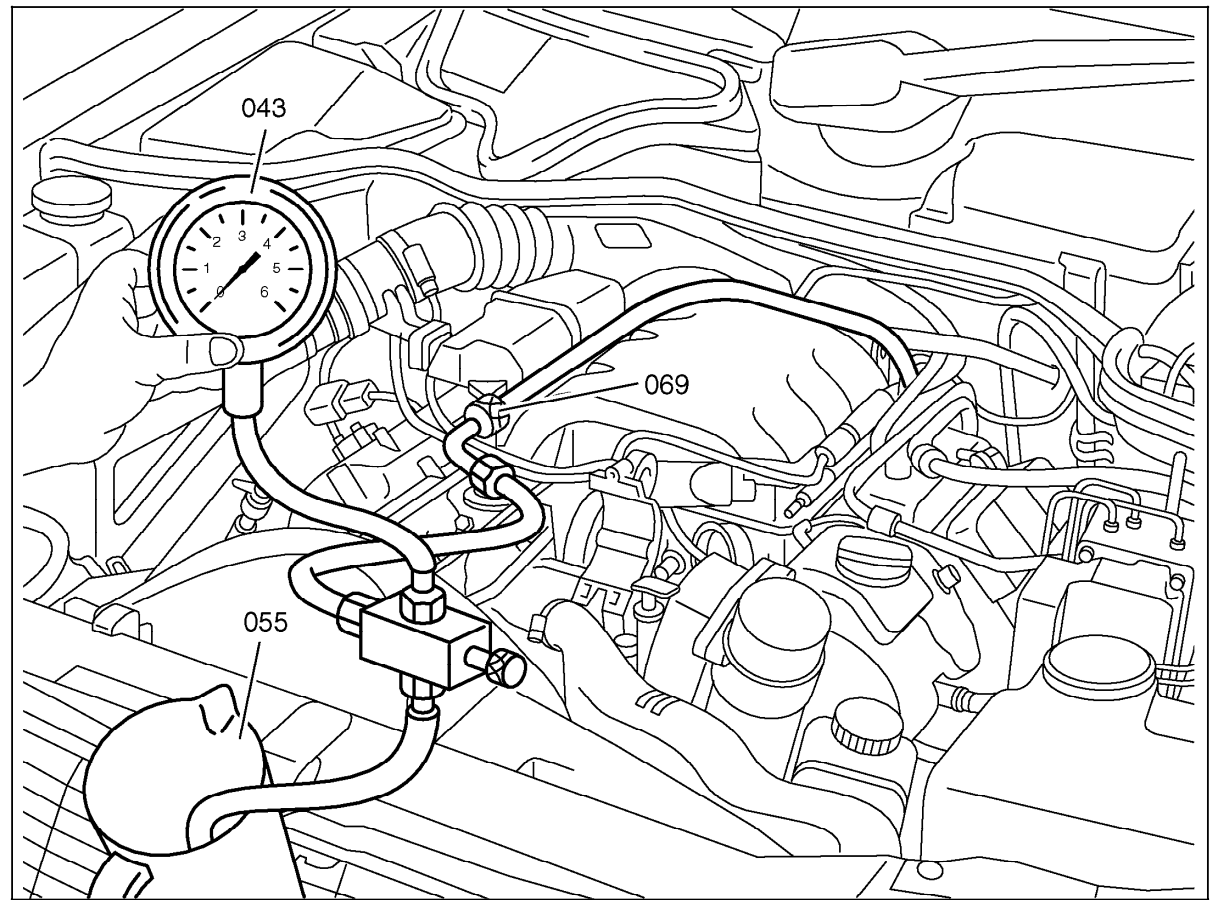

Figure 1
4. After completing test, using measurement glass (055), release fuel pressure and allow residual fuel to drain into glass (see Figure 1).